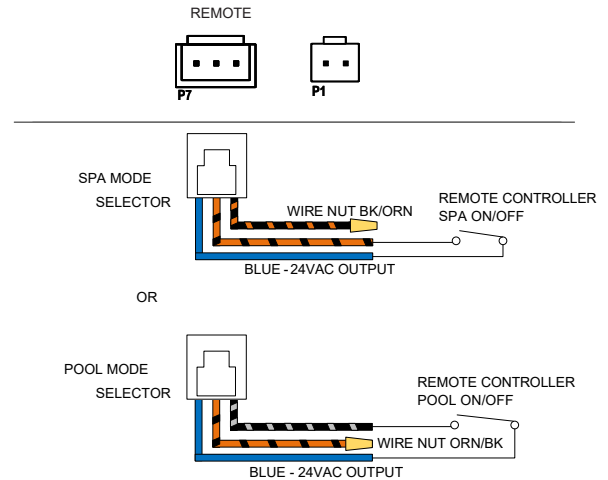

Figure 39. 2-Wire Remote Harness Installation
- On the 3-wire remote harness, connect the BLUE wire to one side of the remote automation controller and connect the other side to either the ORANGE/BLACK wire for "SPA" operation or the BLACK/ORANGE wire for "POOL" operation. See Figure 39.
- Install the "3-wire Remote Harness" to the "P7" connector and turn power "ON" to the heater. See Figure 39.